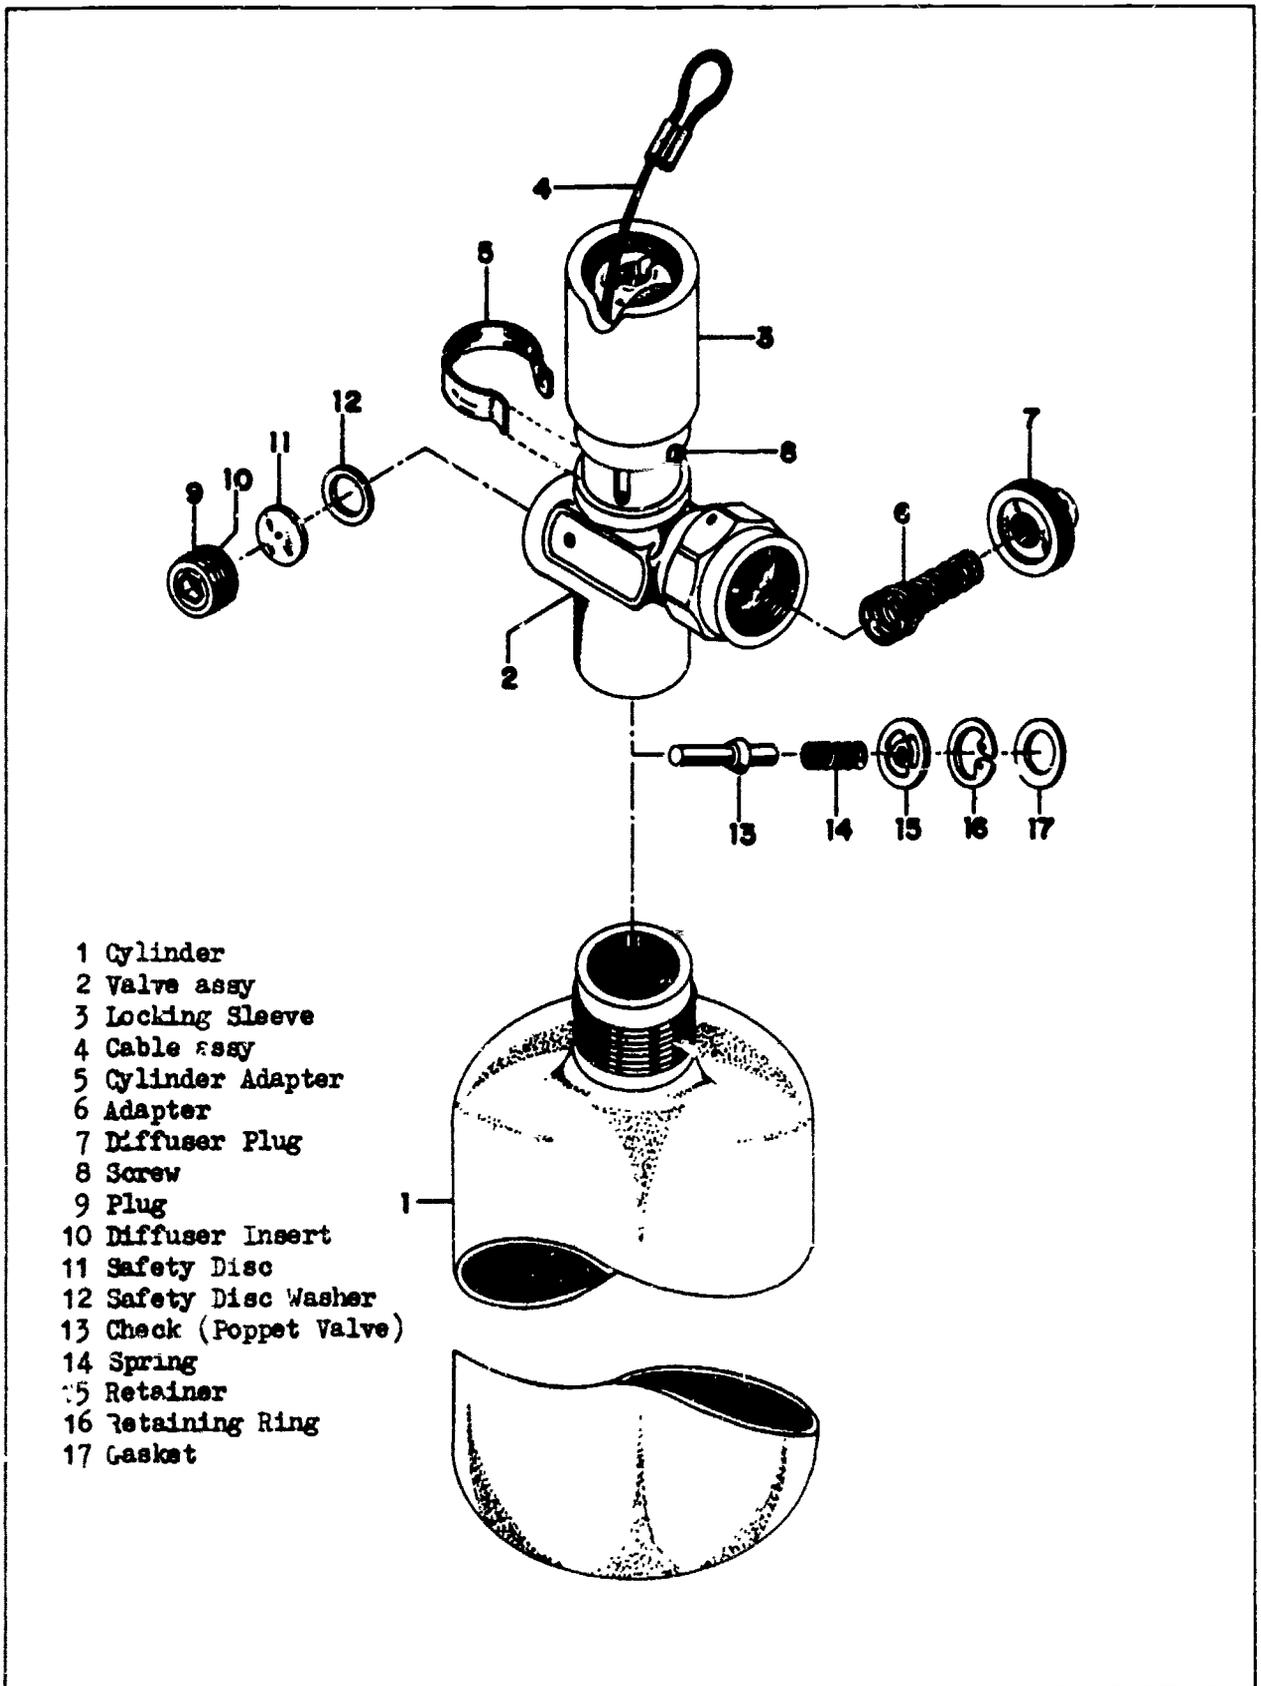

Figure 1 Inflation Assembly (Bendix)
Now that you have completed the programmed texts covering the operation, maintenance, and recharging of life raft cylinders, you should be familiar enough with the equipment to do the required tasks. Refer to figure 1 for an illustrated breakdown of the cylinder assembly. Do the steps given for each section of this workbook.
2. Note figure 2. Insert the end of a small paper clip in the slot in the side of the locking sleeve (3, figure 1) and raise the spring slip lock to release the locking sleeve.
3. Lower the locking sleeve and remove the cable and ball assembly (4, figure 1).